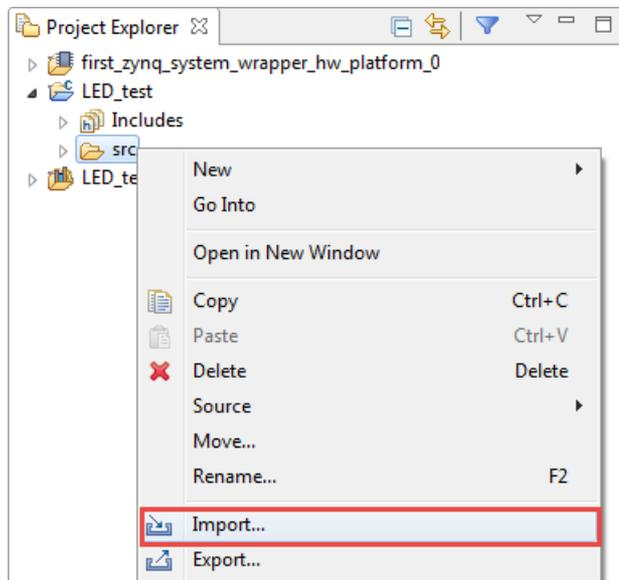

Figure 1.29: Import Source Files to Project
- (d) In the *Project Explorer* panel, expand **LED_test** and highlight the *src* directory. Right-click and select **Import...**, as shown in Figure 1.29.